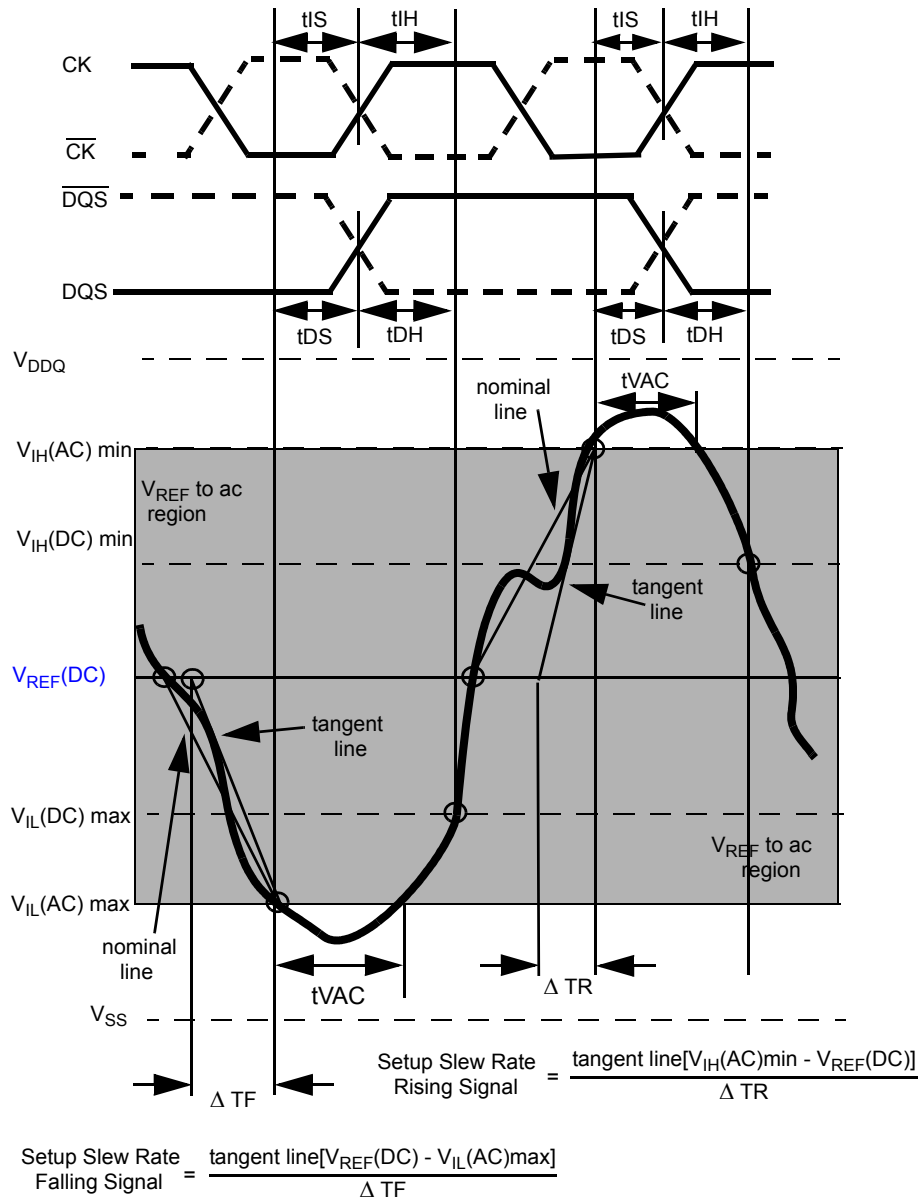

Figure 23. Illustration of tangent line for setup time t_{DS} (for DQ with respect to strobe) and t_{IS} (for ADD/CMD with respect to clock)
Example: tIS (total setup time) = tIS(base) + ΔtIS Setup (tIS) nominal slew rate for a rising signal is defined as the slew rate between the last crossing of V_{REF}(DC) and the first crossing of V_{IH}(AC)min. Setup (tIS) nominal slew rate for a falling signal is defined as the slew rate between the last crossing of V_{REF}(DC) and the first crossing of V_{IL}(AC)max. If the actual signal is always earlier than the nominal slew rate line between shaded 'V_{REF}(DC) to ac region', use nominal slew rate for derating value (see Figure 21). If the actual signal is later than the nominal slew rate line anywhere between shaded 'V_{REF}(DC) to ac region', the slew rate of a tangent line to the actual signal from the ac level to dc level is used for derating value (see Figure 23).